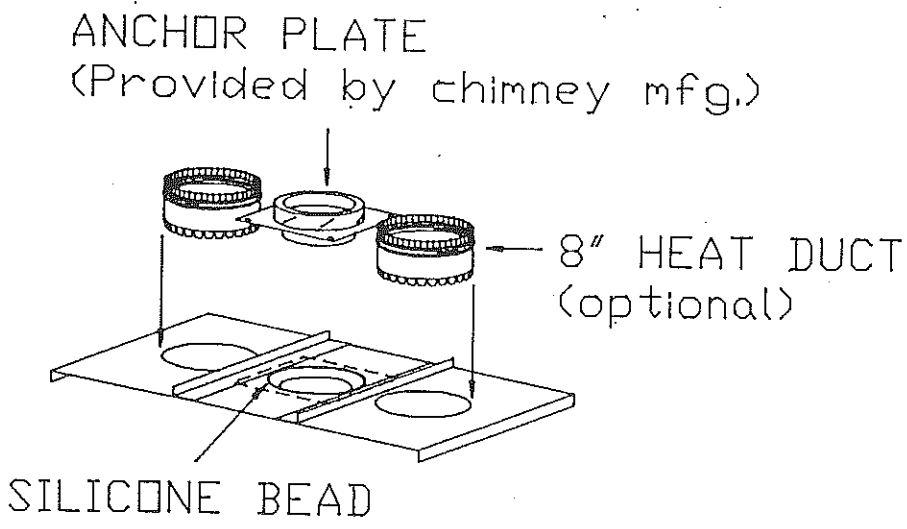

Fig. 4
2. Place a bead of hi-temp silicone caulk (included with your unit) under the appropriate chimney anchor plate (purchased with your chimney system) and push the plate collar into the fireplace flue. See Fig. 4. Secure with metal screws. Connect the first chimney section per the manufacturer's installation instructions.